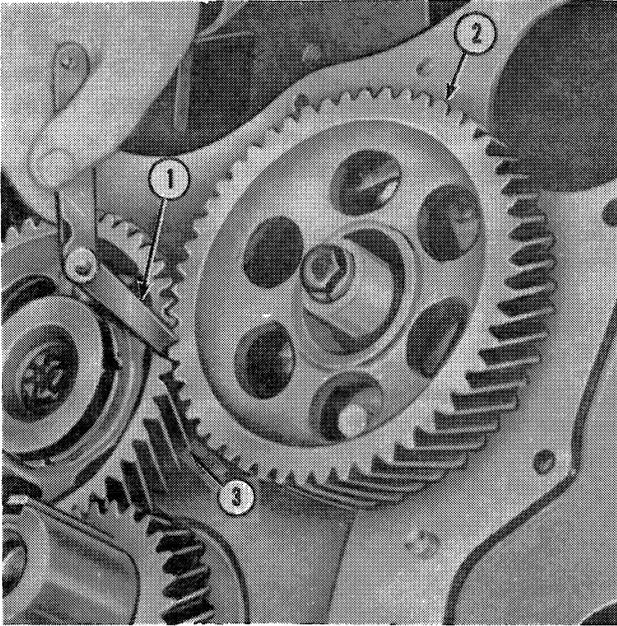

Figure 26
2. Check the backlash of the gears with a dial indicator or a feeler gauge, as shown in Figure 26.